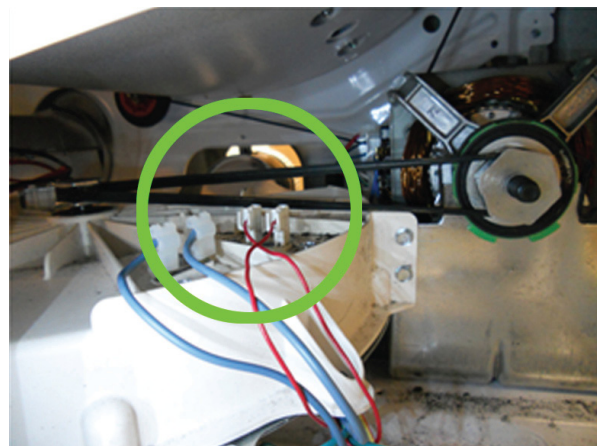

Figure 5
**Note:** The belt should not touch the tab on the blower housing, see figure 5.